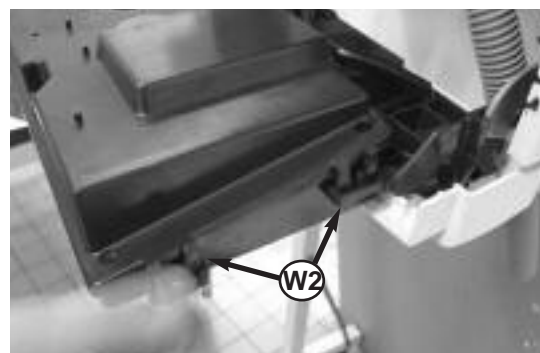

Fig. 107
3. Release the three clips **W2** and remove the electrical box cover (see Fig. 107);